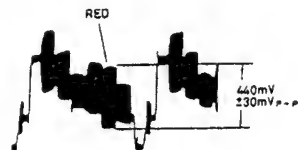

Fig. 4-44
(Figs. 4-44 - 4-50)
- When using an oscilloscope (Fig. 4-44)
- 3) Press the **[U]** and **[D]** keys to set the red level to $440\text{mV} \pm 30\text{mV}$. (Fig. 4-44)